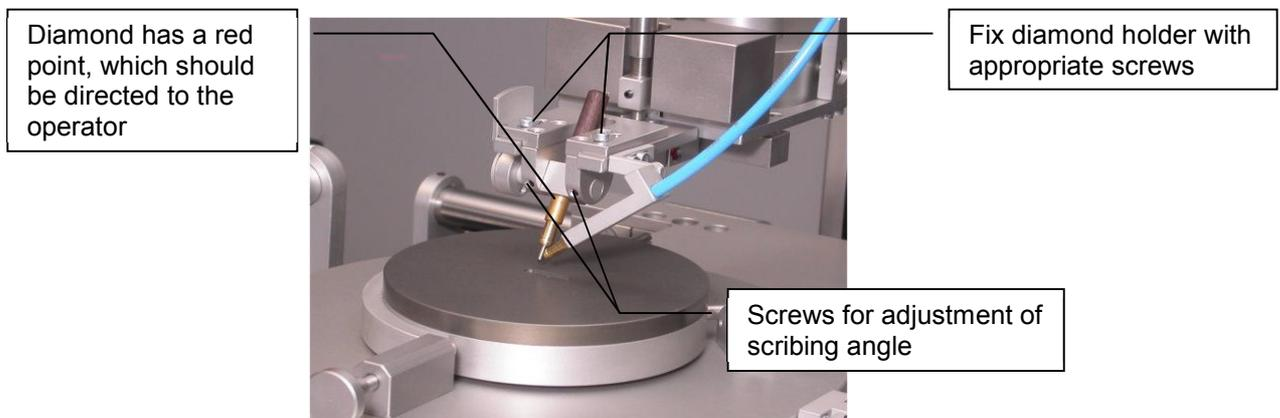

*Fig. 9: Counterbalance for adjustment of lowering speed*
- Now activate footswitch and hold on. At the same time adjust the bottom position of the diamond spike using screw (6) about 0.5mm below the waferchuck. Release footswitch.
- Adjust the lowering speed of the diamond to your requirements using the counterbalance Fig. 9